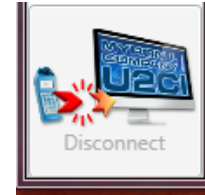

Figure 23
2) Launch the disconnect process by clicking on the "**DISCONNECT**" button on the Tool Panel (Figure 23).